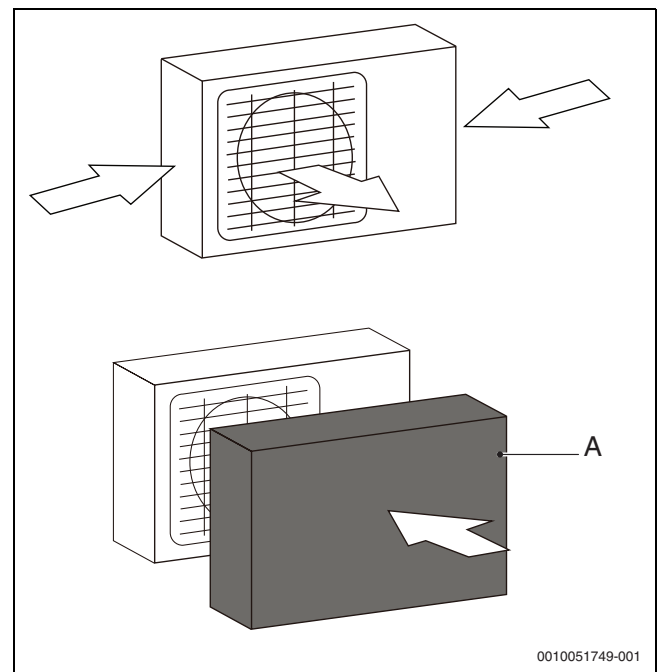

Fig. 37 Protect unit from particularly strong winds
- ▶ If necessary, place a barrier (→ Figure 37, [A]) in front of the unit to protect it from particularly strong winds.